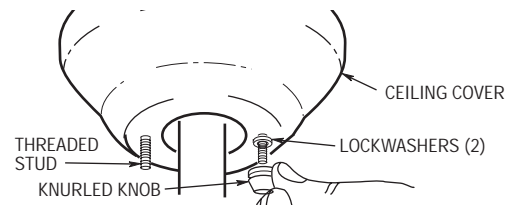

Figure 10
4. Lift the ceiling cover up to the threaded studs and turn until studs protrude through the holes in the ceiling cover (Figure 10).
5. Secure the ceiling cover in place by sliding lockwashers over the threaded studs and installing the two knurled knobs (supplied). (Figure 10). Tighten the knurled knobs securely until the ceiling cover fits snugly against the ceiling and the hole in the ceiling cover is clear of the downrod. Your fan is now wired to be turned on and off from the fan switch.